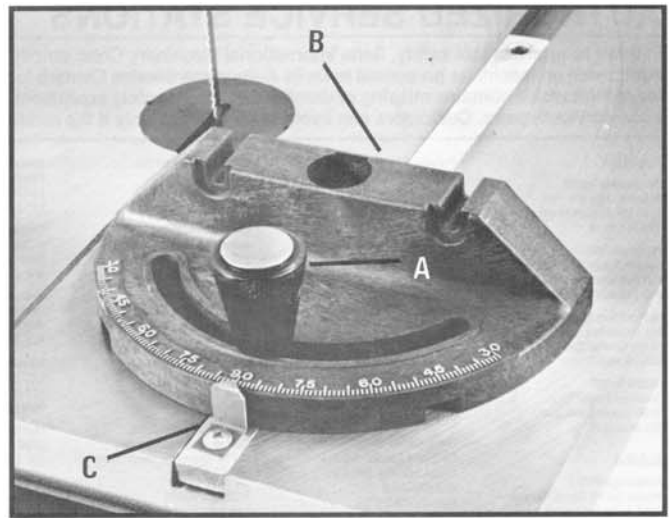

Fig. 32
1. To operate the miter gage, loosen clamp knob (A) Fig. 32, and position the gage body at the desired angle. Then tighten clamp knob (A).
2. To adjust the miter gage, set the miter gage body (B) Fig. 32, so that pointer (C) is at the 90 degree mark, as shown in Fig. 32. Make a cut on a scrap piece of wood. Then check the piece of wood with a square to see if it was cut at 90 degrees. If the piece of wood was not cut at 90 degrees, adjust the miter gage body (B) Fig. 32, until you are certain you have made a 90 degree cut. Then set pointer (C) to the 90 degree mark.